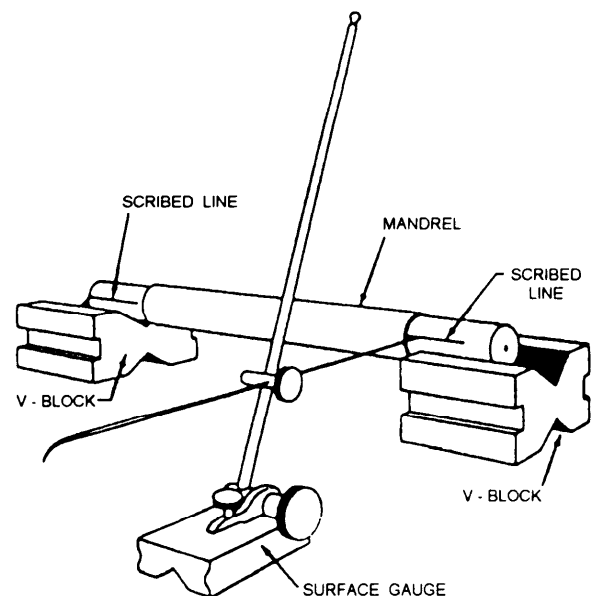

Figure 7-67.—Layout of the work.
2. Place the work on a pair of V-blocks, as shown in figure 7-67.
3. Set the scribe point of the surface gauge to the center height of the work. Scribe horizontal lines on both ends of the work, as illustrated in figure 7-67.